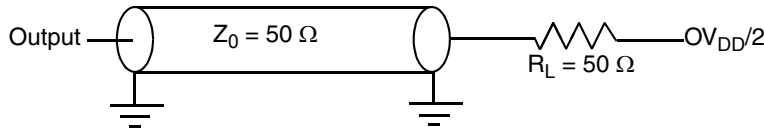

Figure 36. AC Test Load for the JTAG Interface
1. All outputs are measured from the midpoint voltage of the falling/rising edge of t_{TCLK} to the midpoint of the signal in question. The output timings are measured at the pins. All output timings assume a purely resistive 50- Ω load (see Figure 36). Time-of-flight delays must be added for trace lengths, vias, and connectors in the system.
2. The symbols used for timing specifications herein follow the pattern of $t_{(first\ two\ letters\ of\ functional\ block)(signal)(state)\ (reference)(state)}$ for inputs and $t_{(first\ two\ letters\ of\ functional\ block)(reference)(state)(signal)(state)}$ for outputs. For example, t_{JTDVKH} symbolizes JTAG device timing (JT) with respect to the time data input signals (D) reaching the valid state (V) relative to the t_{JTG} clock reference (K) going to the high (H) state or setup time. Also, t_{JTDXKH} symbolizes JTAG timing (JT) with respect to the time data input signals (D) went invalid (X) relative to the t_{JTG} clock reference (K) going to the high (H) state. Note that, in general, the clock reference symbol representation is based on three letters representing the clock of a particular functional. For rise and fall times, the latter convention is used with the appropriate letter: R (rise) or F (fall).
Figure 36 provides the AC test load for TDO and the boundary-scan outputs.